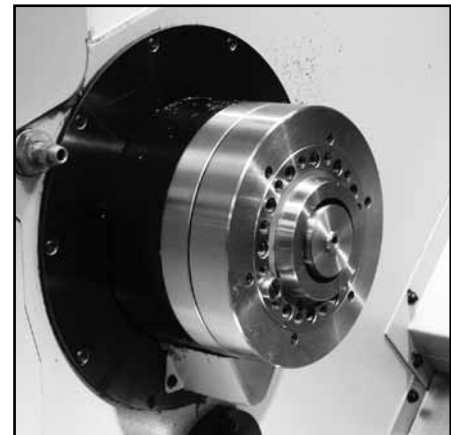

Figure 5 – Draw Collet
2. Align the **Draw Collet** keyway to the spindle key and slide the **Draw Collet** into the spindle. (Figure 5)